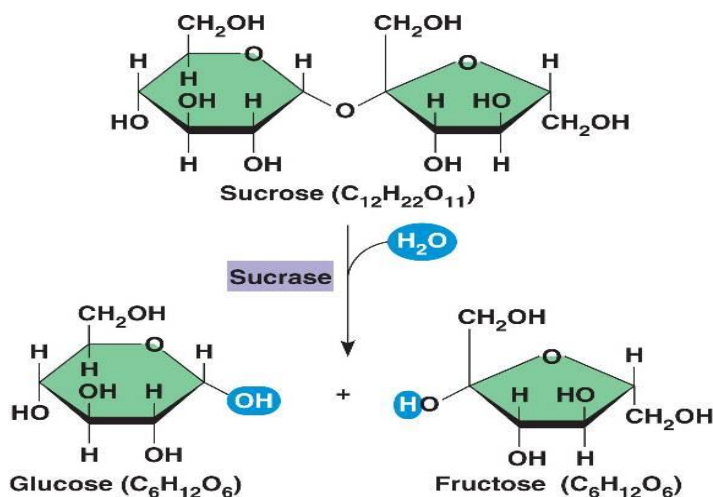

Figure 2: Hydrolysis enzyme reaction of sucrase to produce glucose and fructose from the disaccharide sucrose.
There are two ways to measure enzyme activity: (1) determine the rate of disappearance of the substrate, and (2) determine the rate of appearance of the product. The experiment that you have been given the data for was on the *in vitro* activity of the enzyme sucrase on the substrate of common sucrose (table sugar). The assay was set up to measure to release and appearance of fructose as the enzyme broke the glycosidic linkage between glucose and fructose (which is the disaccharide sucrose) as shown in Figure 2.